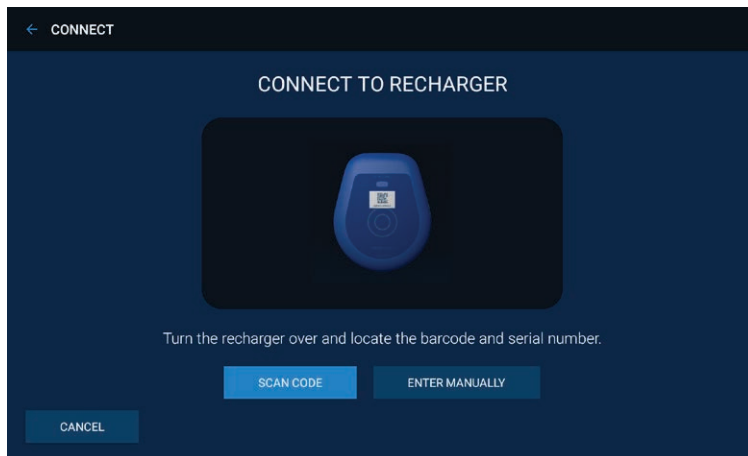

Figure 6. Connect to Recharger screen
5. Turn the recharger over to view the back side. Scan the code or enter the serial number manually (Figure 6).